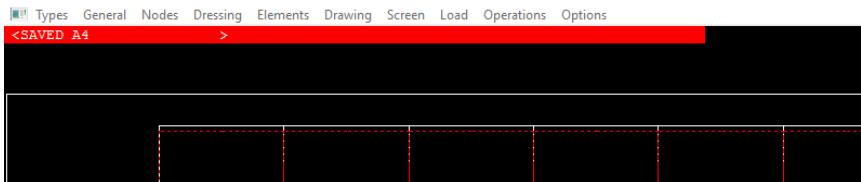

Figure 4.52
- After the drawing of the mesh in DESfin, select the Operations tab and then Save Graphic File . A message appears indicating that the figure has been saved (Figure 4.52).